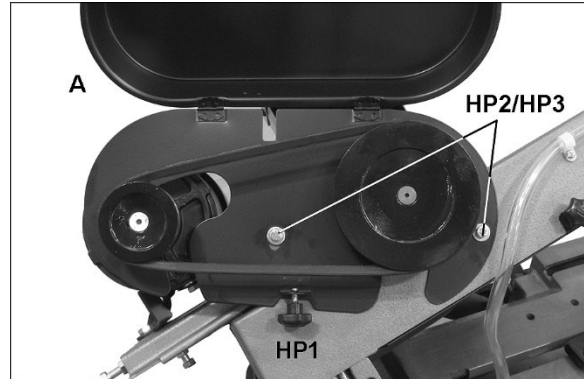

Figure 6-8: installing pulley cover
- Slide pulley cover (A, Figure 6-8) over spindles and secure with screws and washers (HP2/HP3), using 10mm wrench.